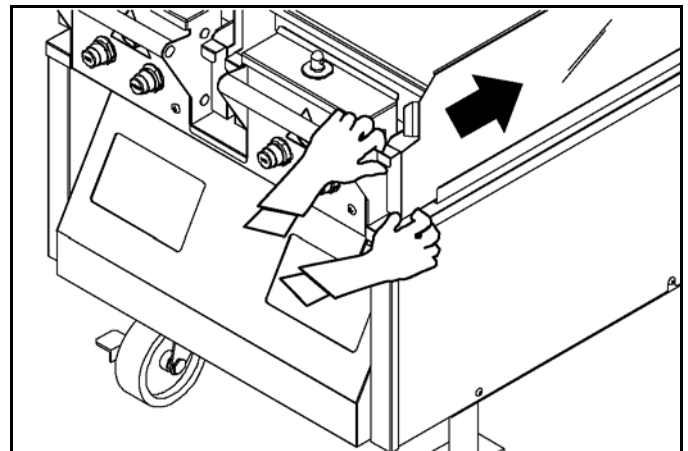

Figure-137
46. Wash, rinse, and sanitize the rear grease guard and grease cans at the three-compartment sink. Reinstall the grease cans. See Figure-137.